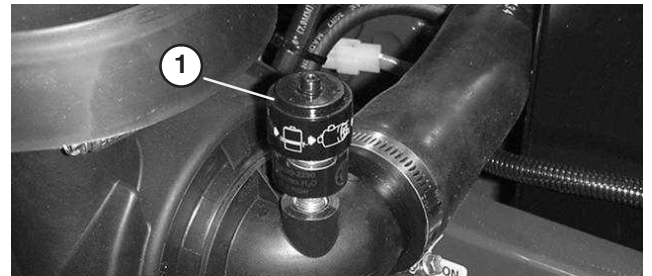

Figure 43
- Service the air cleaner filters when air cleaner indicator (Fig. 43) shows red or every 400 hours (more frequently in extreme dusty or dirty conditions). Do not over service air filter.
6. Reset indicator (Fig. 43) if showing red.